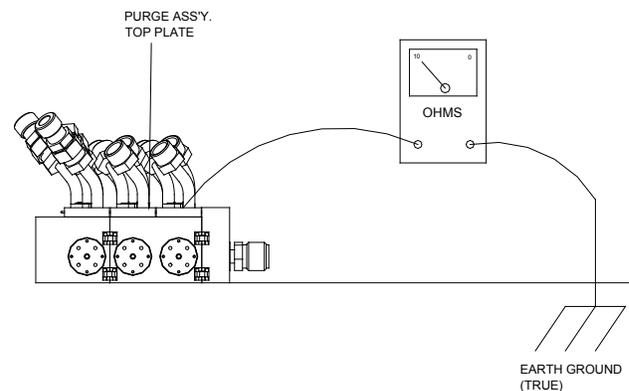

Figure 12: Ground Test
14. With an ohm meter, check for conductivity between the top plate of the purge valve and the output plate on the color changer. There should be 10 ohms or less between the two points. (Reference Figure 12)